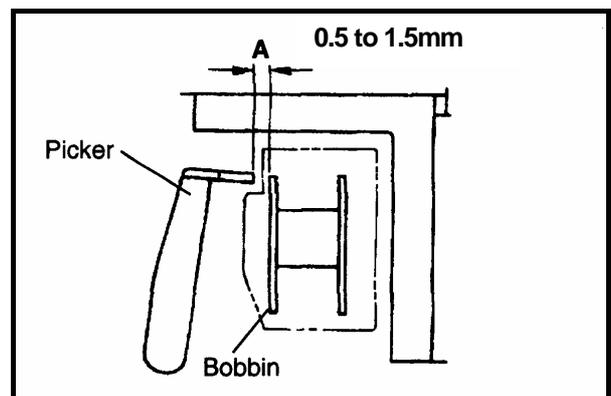

FIG.1
- (1) Remove the table set.
- (2) When the picker solenoid is on, clearance A between the picker tip and the bobbin must be 0.5 to 1.5mm. (Fig.1)